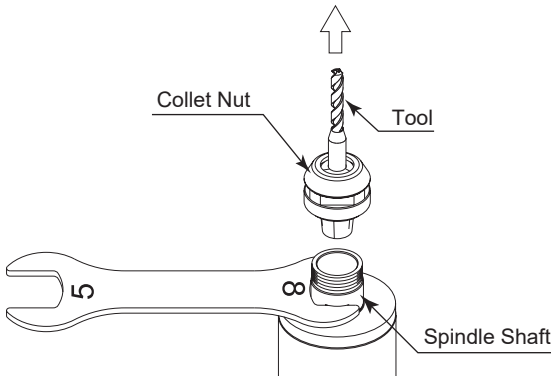

Fig. 8
- ① Remove the tool according to the section "8. CHANGING THE TOOL" procedure above and remove collet nut assembly (Fig. 8).